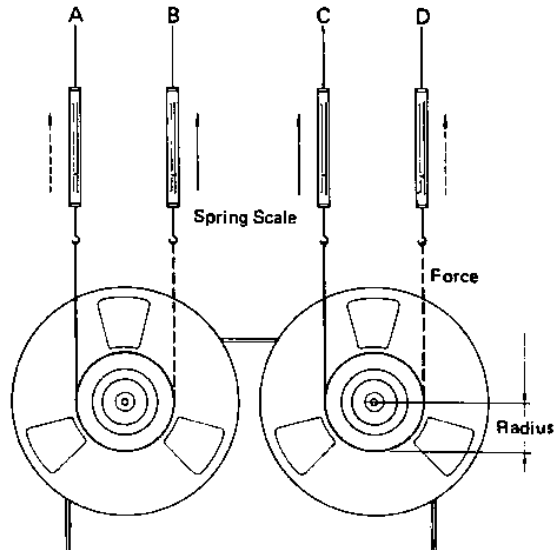

FIG. 16. BRAKE TORQUE MEASUREMENT
1. Mount an empty 10-1/2" reel onto either reel table and attach a spring scale to the reel with a string. See Fig. 16.
2. Smoothly pull the scale away from the reel under test and note the torque value when the reading on the scale is steady. Take the four measurements A through D shown in Fig. 16. The proper torque values are shown below the figure.
Forward Torque; B & C in Fig. 16	2100 - 2400 g-cm (29.2 - 33.4 oz-inch)